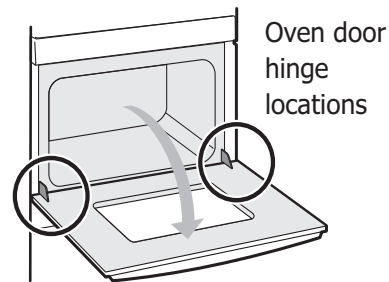

Figure 45: Door hinge location
1. Open oven door completely, horizontal with floor (See Figure 45).
3. Fully open the oven door, horizontal with floor (See Figure 45).